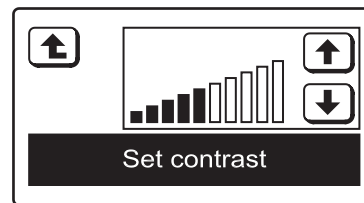

FIG. 28
5. Press the SET CONTRAST button and the display will change to show the **Set contrast** screen (See Figure 28).